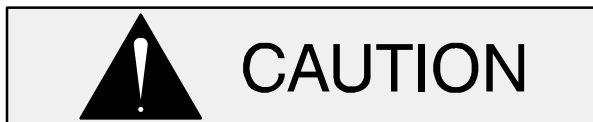

**Figure 1. Pump Model 03H3-GL**
See Figure 1 for the approximate physical dimensions of this pump.
*If the gearbox is rotated out of the standard position shown in Figure 1, the oil fill and drain plugs must be relocated. The oil vent must be relocated to the highest port. Consult the factory for correct positioning of the fill plug to provide for proper lubrication of the gearbox.*